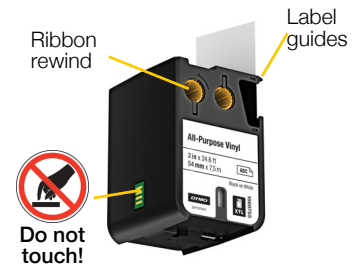

Figure 6
Do not touch the electronic chip in the side of the cartridge; oils from your hand may prevent the chip from working properly. See Figure 6.
- 2 Make sure the tape and ribbon are taut across the mouth of the label cartridge and that the tape passes between the label guides. See Figure 6.